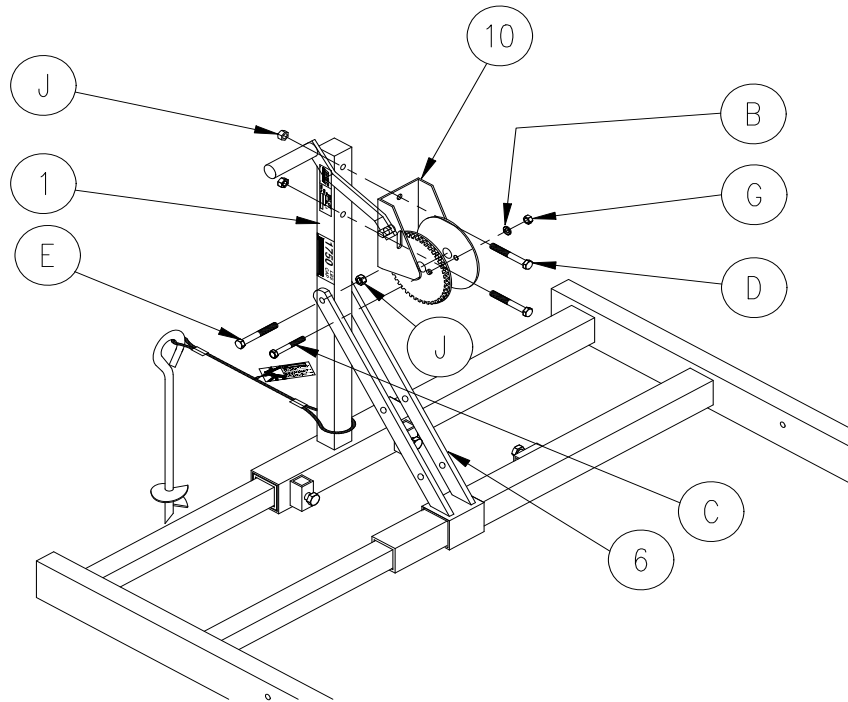

Figure 3-2.
1. Refer to **Figure 3-2**. Attach the winch support strut (6) to winch post (1) using hardware (E & J).
2. Assemble winch (10) to winch post using two each (D & J).
3. Install winch strap (11) to winch using hex head cap screw (C) through one side of drum, then through loop of strap, and other side of drum. Secure with lock washer (B) and nut (6).